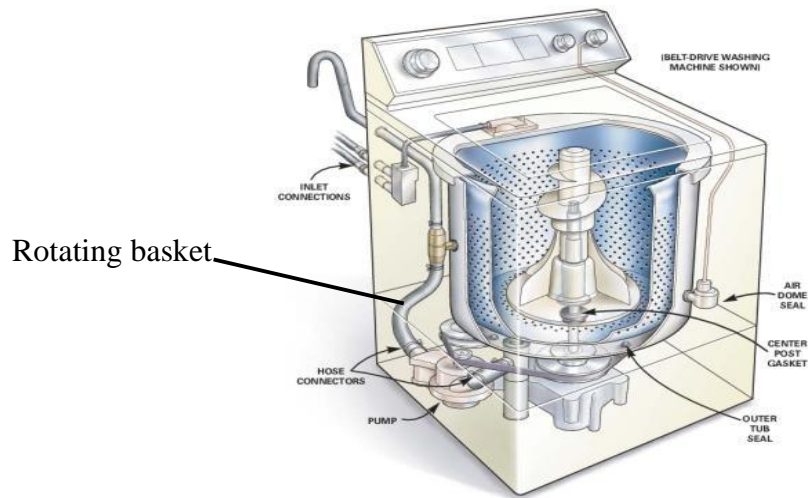

Figure 2/Rajah 2
2. Consider a washing machine that is operating during a spin cycle with unbalanced wet clothes as illustrated in Figure 2. Assume the clothes basket is attached to the body of the washing machine with equivalent stiffness constant and damping ratio are k and ζ , respectively.